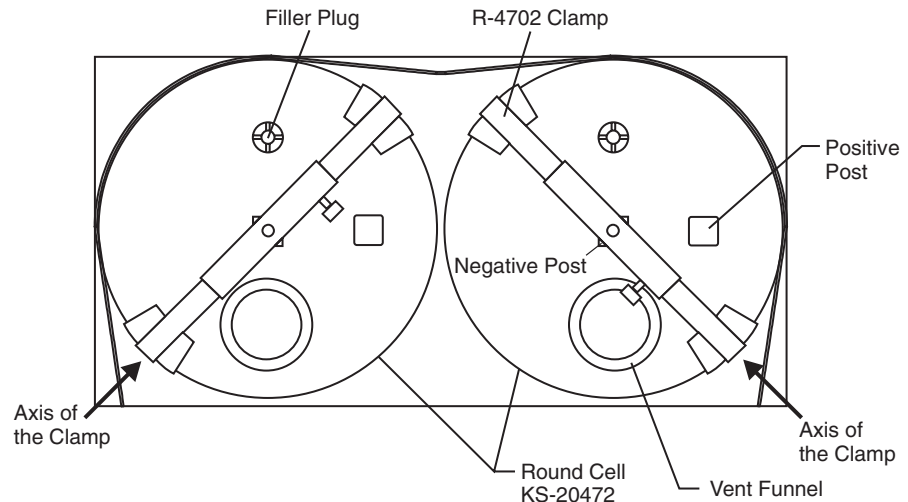

Figure 6-1: Lifting Clamp
- When lifting the Round Cell battery using the lifting clamp, center the clamp over the battery. See Figure 6-1.